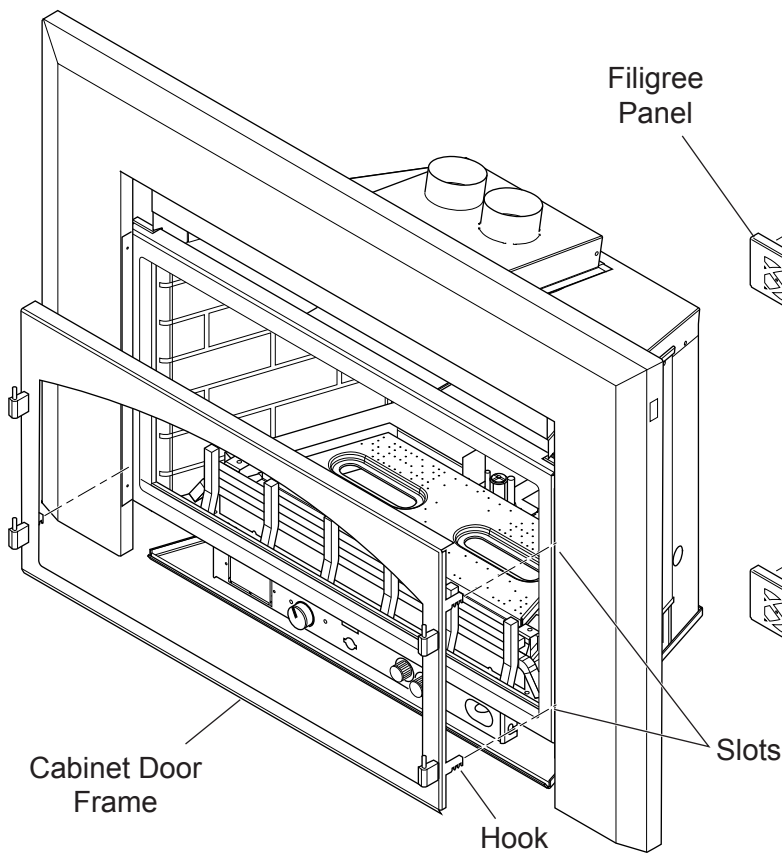

Figure 29 - Installing Cabinet Door Frame
1. Slide cabinet door frame on to front of unit. Make sure the four (4) hooks of the cabinet door frame are inside four slots on front of unit. *See Figure 29.*